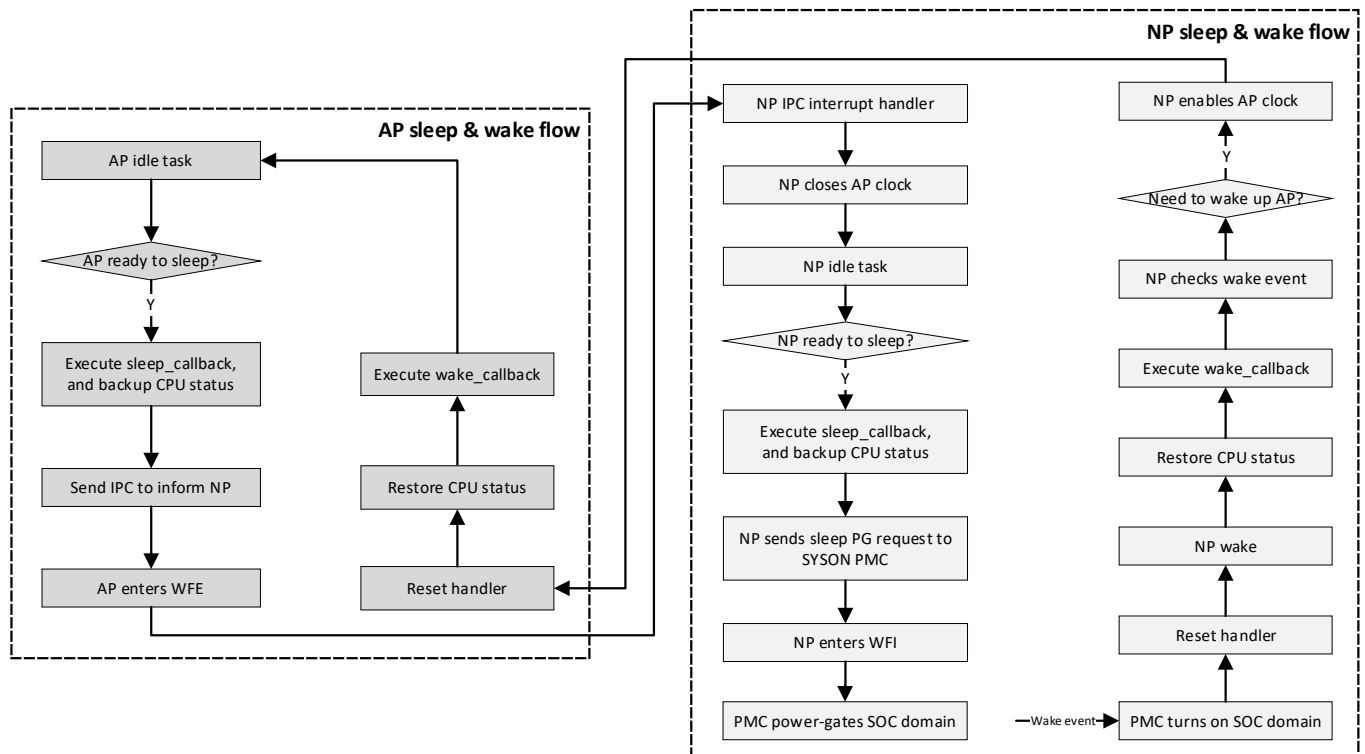

Figure 20-3 Sleep and wake flow of PG
- For sleep PG, if a wakeup event occurs, PMC will turn on the SOC domain's power and clock. KM0 will first start from the reset handler, and check the flag to see if it wakes from PG. If so, KM0 will restore the CPU status, continue to execute from where it sleeps, and then check wakeup reasons to see if this wake source is for KM4, then decide whether to release KM4's clock to resume KM4. Figure 20-3 shows the sleep and wake flow of PG.